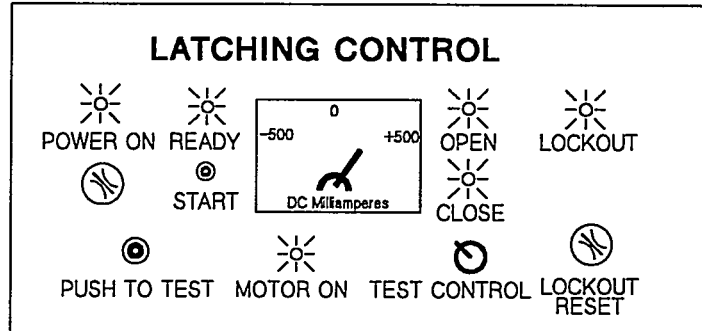

Figure 15) Shielded Receiver RLU Controls.
7.5.3 **TEST** the latch unit (see Figure 15) as directed below: